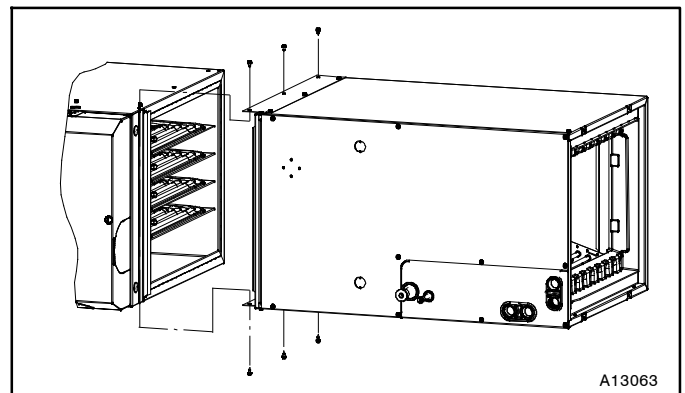

Figure 6 - Horizontal Right Installation
4. Use self-tapping screws to attach furnace. (See **Figure 6**)
6. Use cork tape to create air seal between the undersides of the pan extension and front of the vertical drain pan as shown in **Figure 6**.